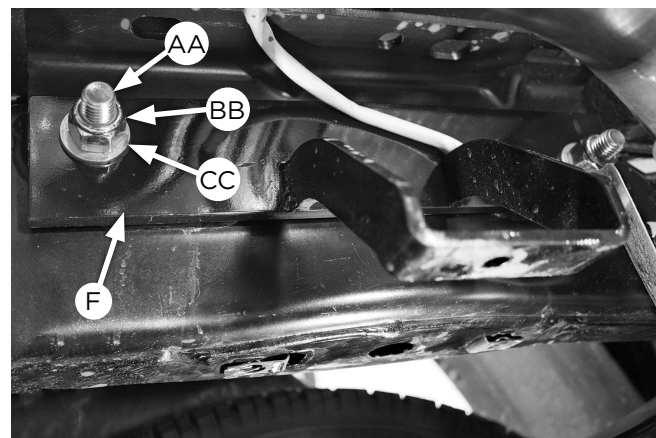

Fig. 39
- Remove the factory fifth wheel hitch hardware (if equipped) from the holes in the side of the frame. Using the existing holes in the frame, attach the upper frame brace (F) to the frame using the factory hitch hardware removed or the 5/8" (AA, BB, CC) hardware supplied (Fig. 39). Leave loose at this time.